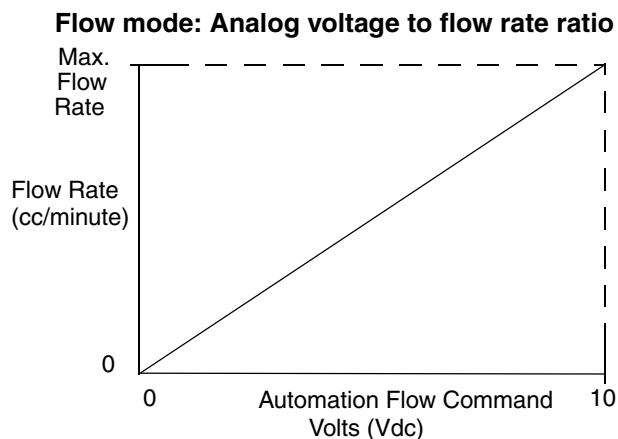

FIG. 17
3. Calculates a linear ratio of the automation analog input voltage to the desired flow rate. Refer to FIG. 17.